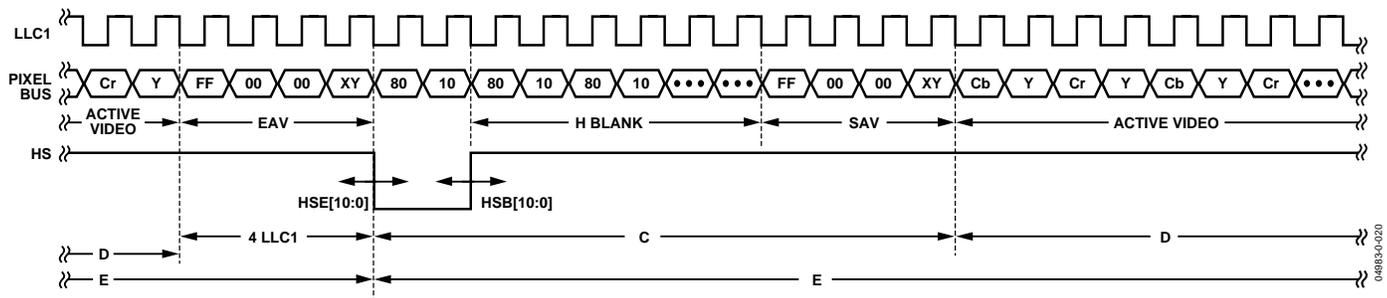

Figure 20. HS Timing
The position of this edge is controlled by placing a binary number into HSB[10:0]. The number applied offsets the edge with respect to an internal counter that is reset to 0 immediately after EAV code FF,00,00,XY (see Figure 20). HSB is set to 00000000010b, which is 2 LLC1 clock cycles from count[0].
The position of this edge is controlled by placing a binary number into HSE[10:0]. The number applied offsets the edge with respect to an internal counter that is reset to 0 immediately after EAV code FF,00,00,XY (see Figure 20). HSE is set to 00000000000b, which is 0 LLC1 clock cycles from count[0].
**Table 54. HS Timing Parameters (see Figure 20)**